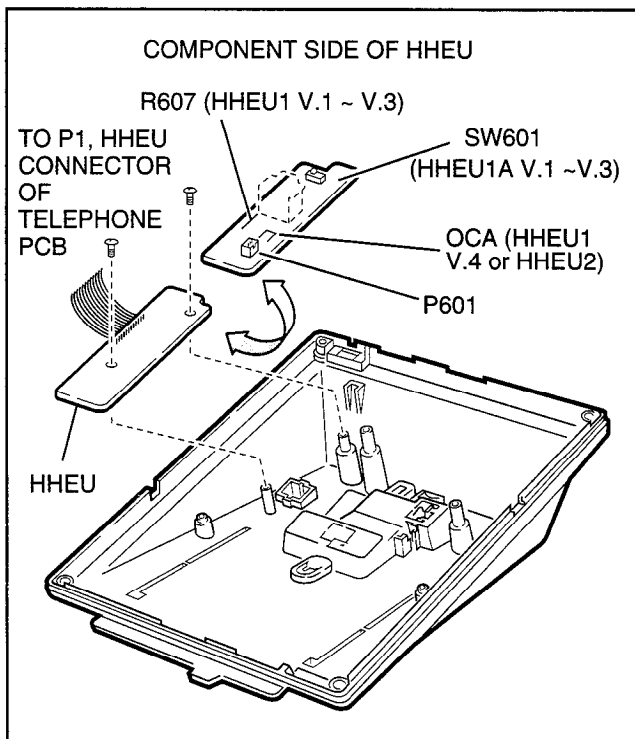

FIGURE 6-15
- 3) If using a **V.3** or earlier HHEU1, set the **SW601** switch to the **HEADSET** position for HESB and/or headset connection (Figure 6-15). This switch is not on either the **V.4** HHEU1 or the HHEU2, because the operation is automatic with these subassemblies.
- 5A) For the **V.3** or earlier HHEU1: If only the headset is connected to the HHEU, cut both sides of the **R607** resistor on the HHEU (Figure 6-15) and then remove the resistor to eliminate electrical contact.
- 5B) For the **V.4** HHEU1 or the HHEU2: If only the headset is connected to the HHEU, cut the **OCA** strap (Figure 6-15).
- 6) Position the HHEU subassembly on the standoffs inside the base (Figure 6-15), and secure with the two provided screws.